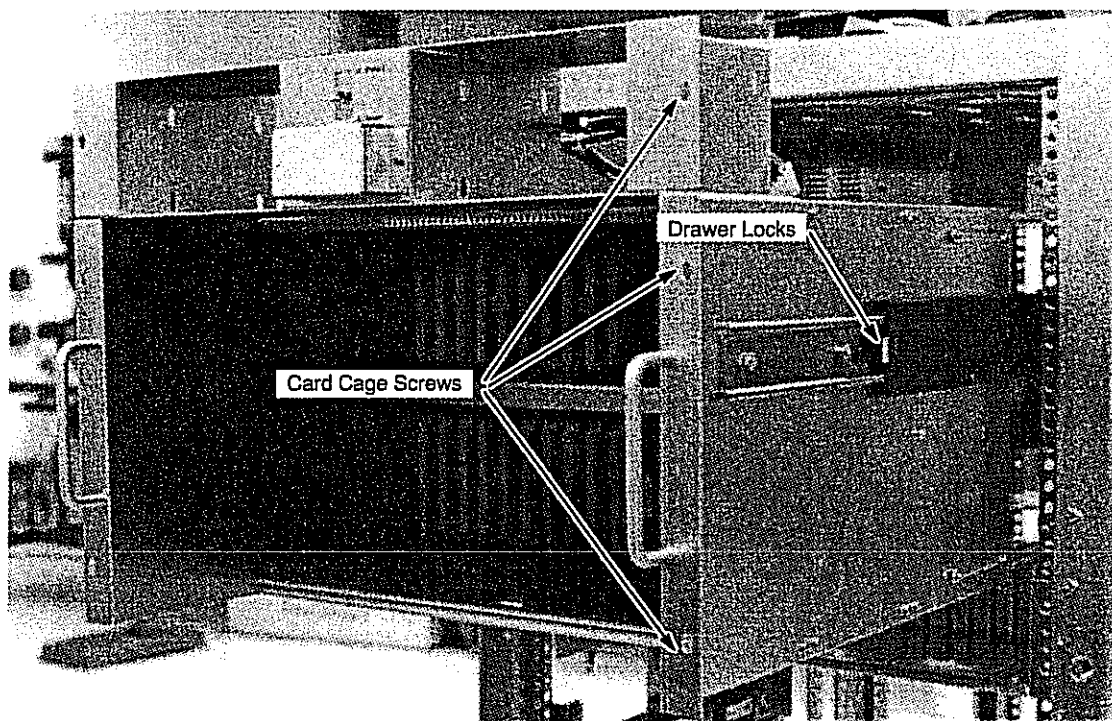

Figure 7-36. IOS VME Card Cage
3. Remove the four screws that secure the IOS VME card cage. Refer to Figure 7-36.
6. Pull the card cage out as far as it will extend (the drawer has locks as shown in Figure 7-36), and then remove the entire maintenance small computer system interface (SCSI) as directed in the following steps.